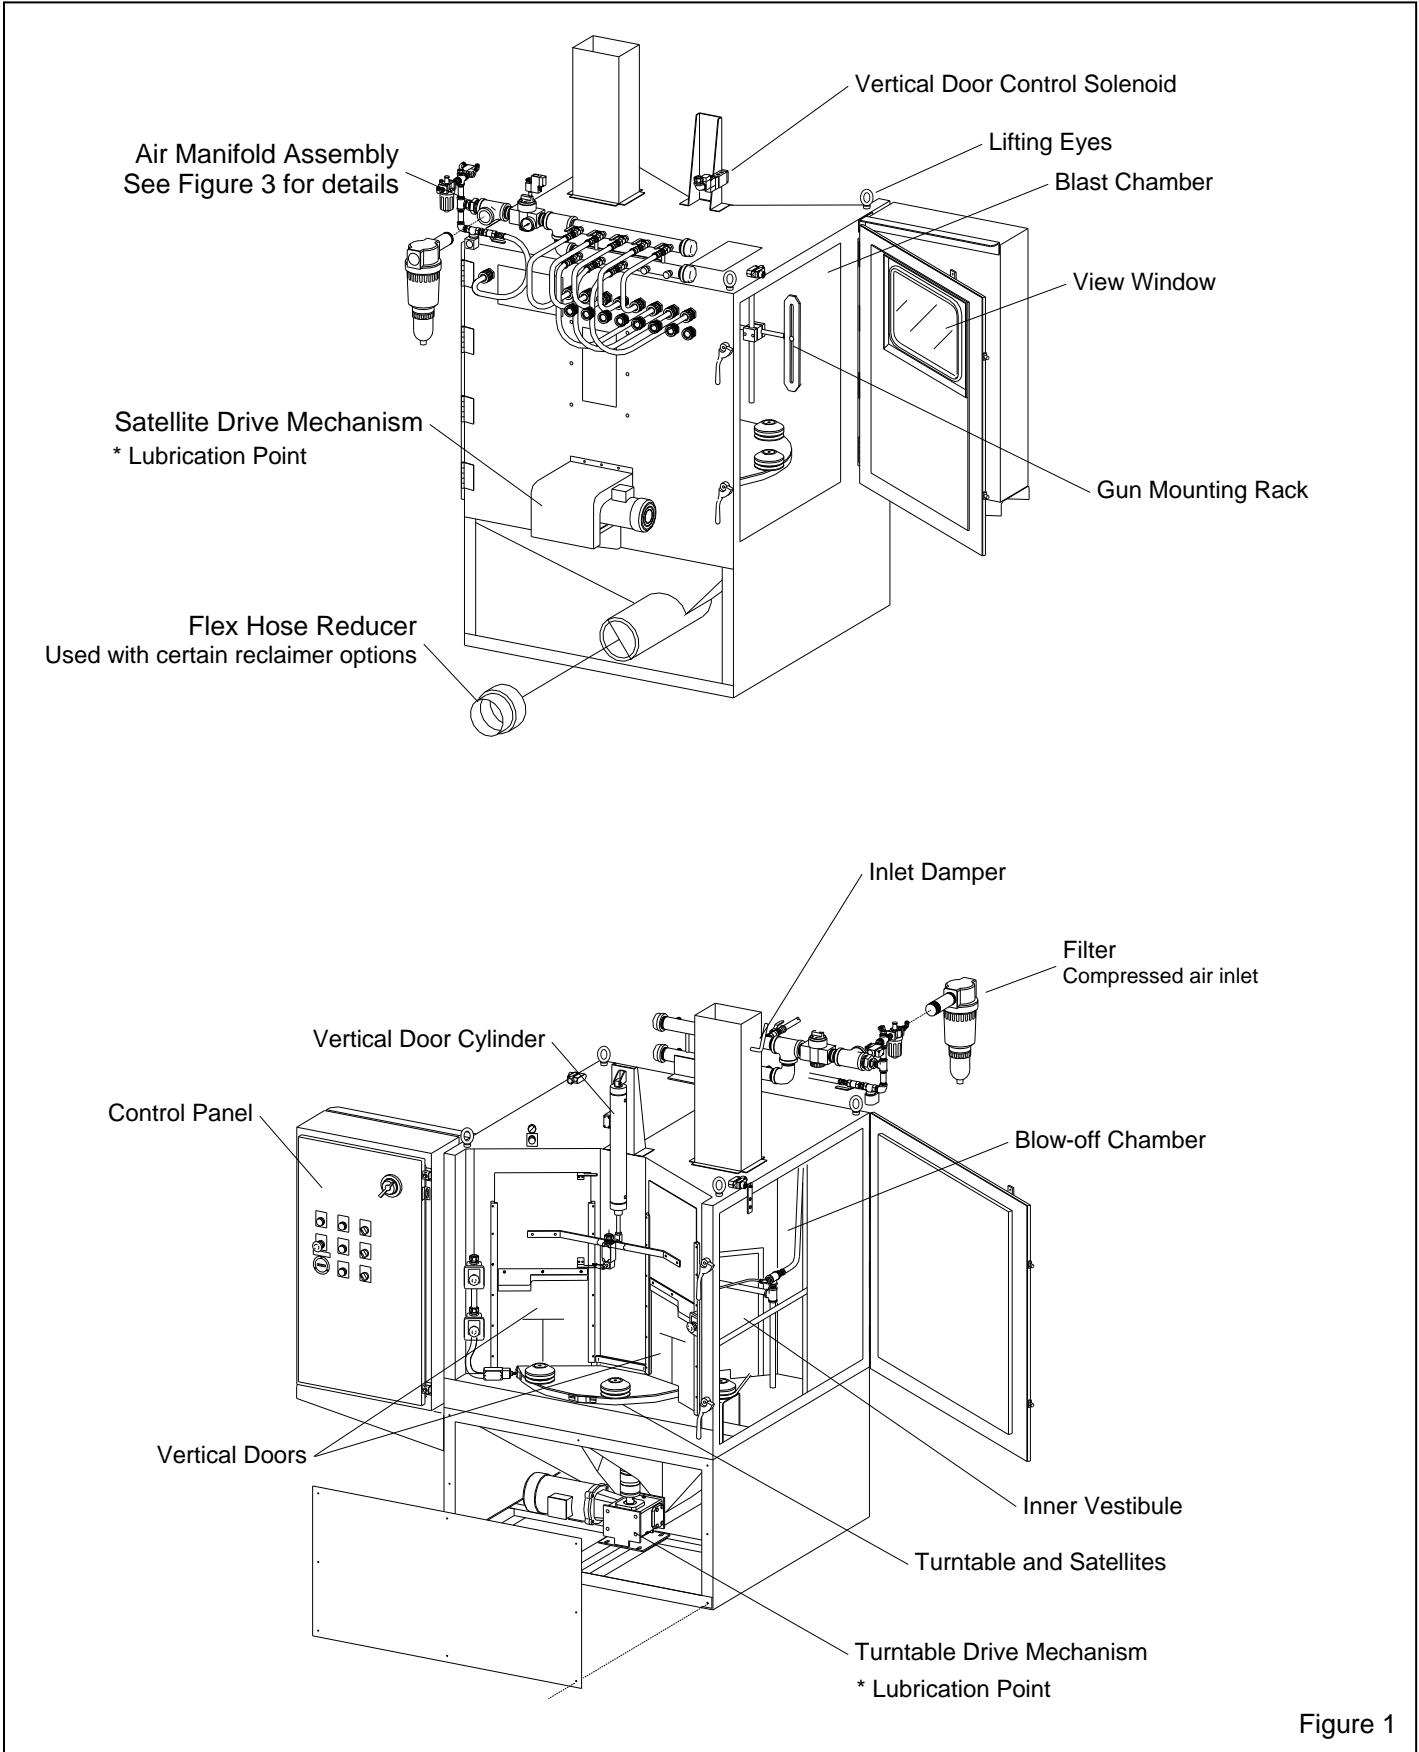

Figure 1
1.3.1 Indexing blasting and peening system includes the cabinet enclosure, optional media-add hopper, reclaimer, and dust collector. The primary parts are shown in Figures 1 through 3, and in the general arrangement drawings.